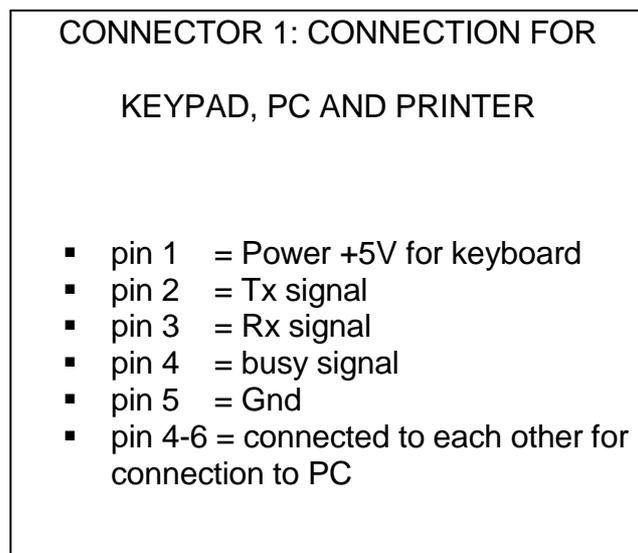

Fig. 2
Connect a serial printer to the connector (n.2 of fig.2 at par.5) to the balance as shown in the following scheme:
8. Map of RS232 interface Connector (n.2 fig.2 par.5)